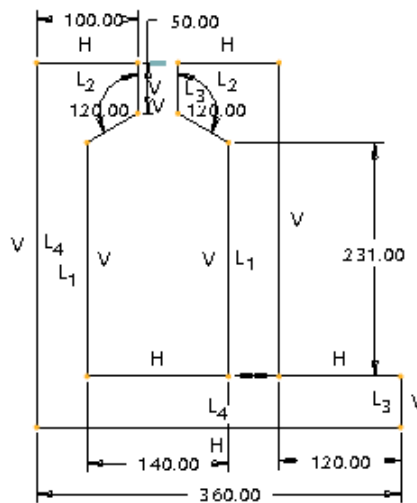

Figure 2-31 Complete sketch with dimensions and constraints
4. When all dimensions are modified, choose the **Done** button from the **Modify Dimensions** dialog box; the message **Dimension modifications successfully completed** is displayed in the message area. The completed sketch is shown in Figure 2-31.